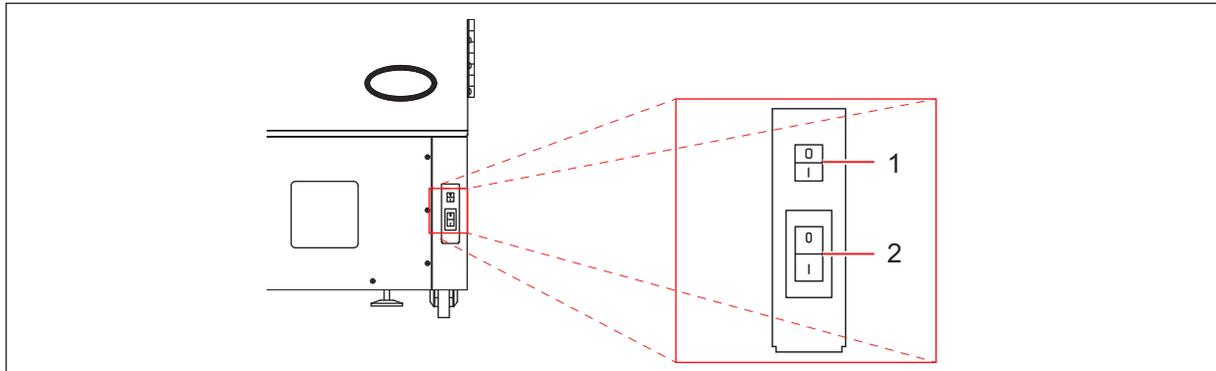
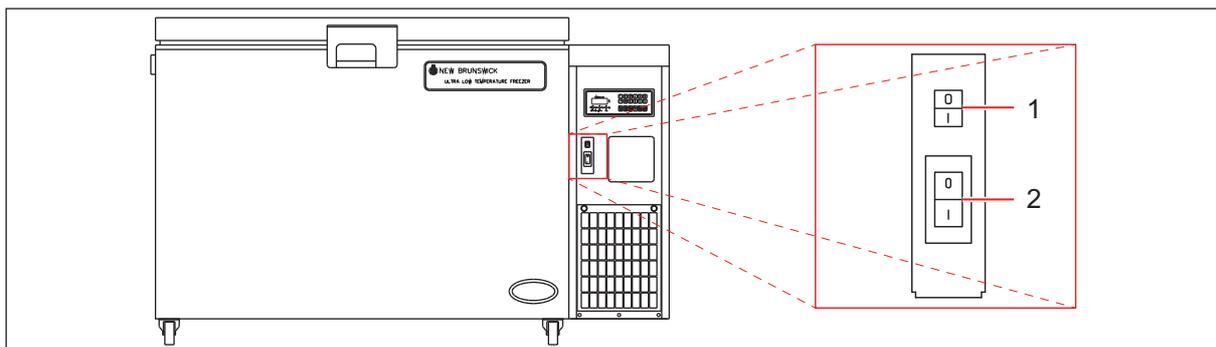

Fig. 6-1: Upright freezers switch location
Fig. 6-2: Chest freezers switch location
The equipment is delivered with the battery deactivated. The Power Fail alarm is activated by the battery rocker switch within the lockable panel, which is located at the bottom right-hand corner. The switch is labelled **I (ON)** and **O (OFF)** (see Fig. 6-1 on p. 26) and (Fig. 6-2 on p. 26).